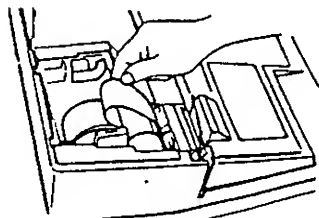

Fig. 8
5. Insert the paper end into the journal inlet while holding the **[JF]** key pushed down (Fig. 8).